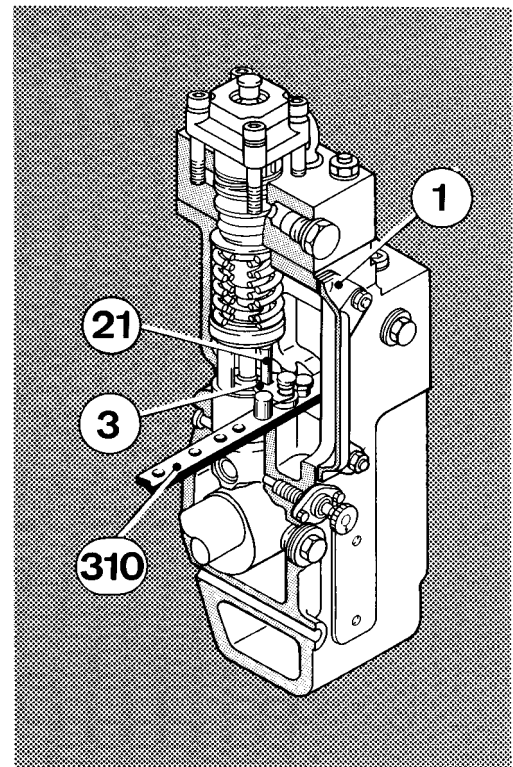

Fig. 1
The control rod 310 - Fig. 1 - is fitted with a lug (3) which engages with the control pin (21) of the pump element and thus transmits the governor action to the plunger provided with a helical control edge.